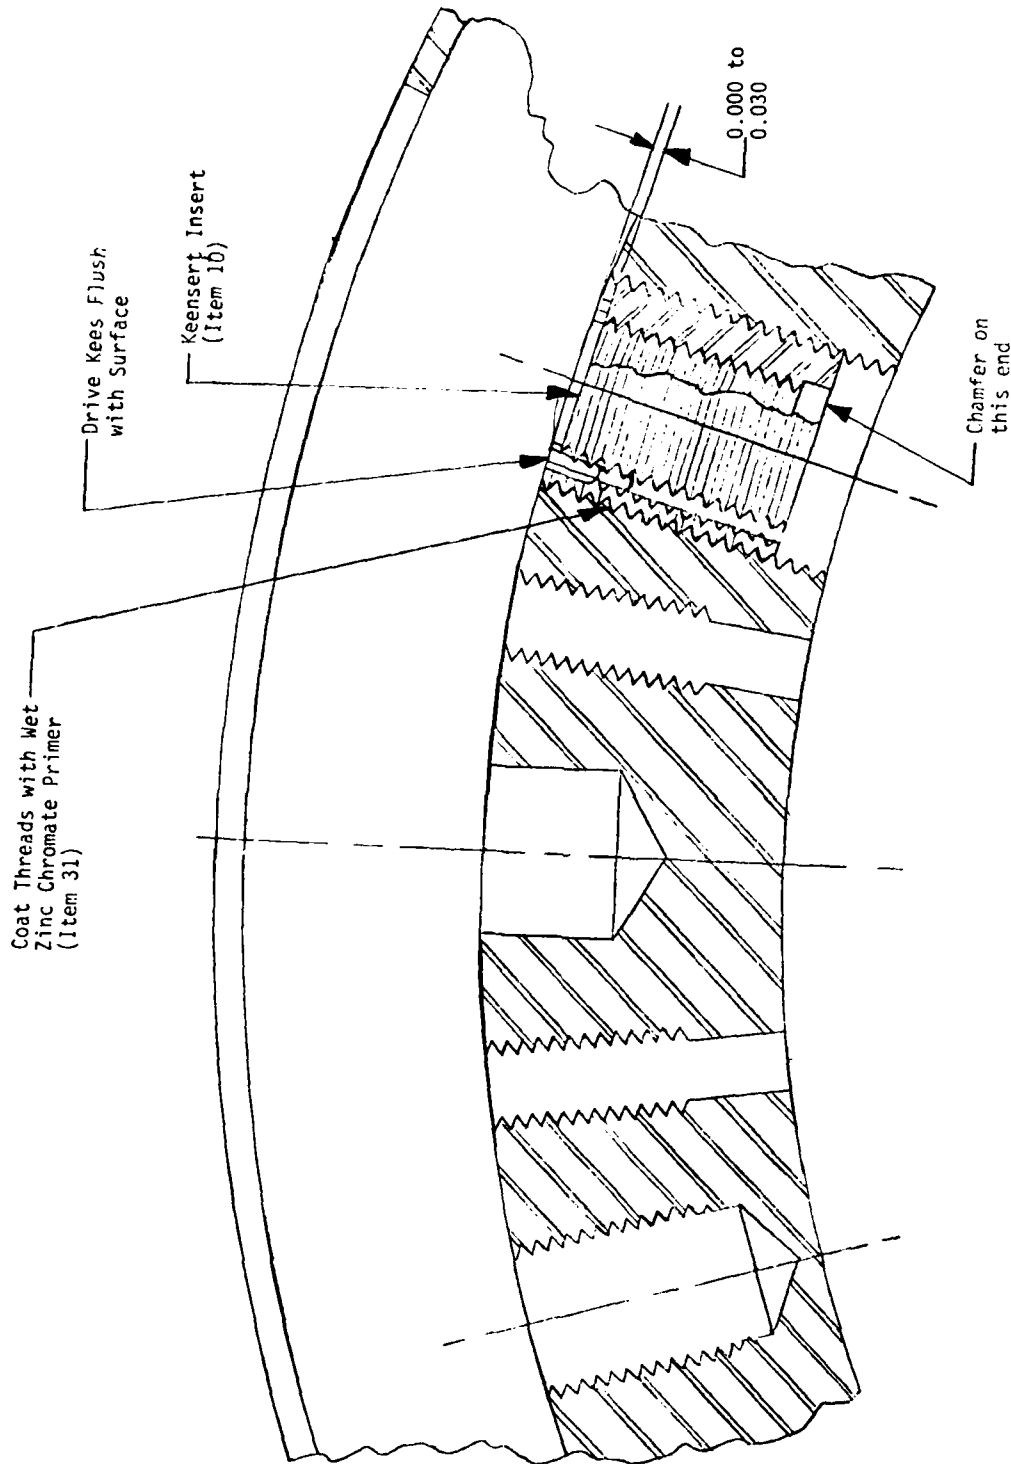

Figure 6. Keensert installation: First Keensert installed.
34. Use the Keensert installation tool and thread the insert into the tapped hole. The surface of the insert must be below flush with the missile center ring surface but not more than 0.03 inch below flush (see Figure 6).